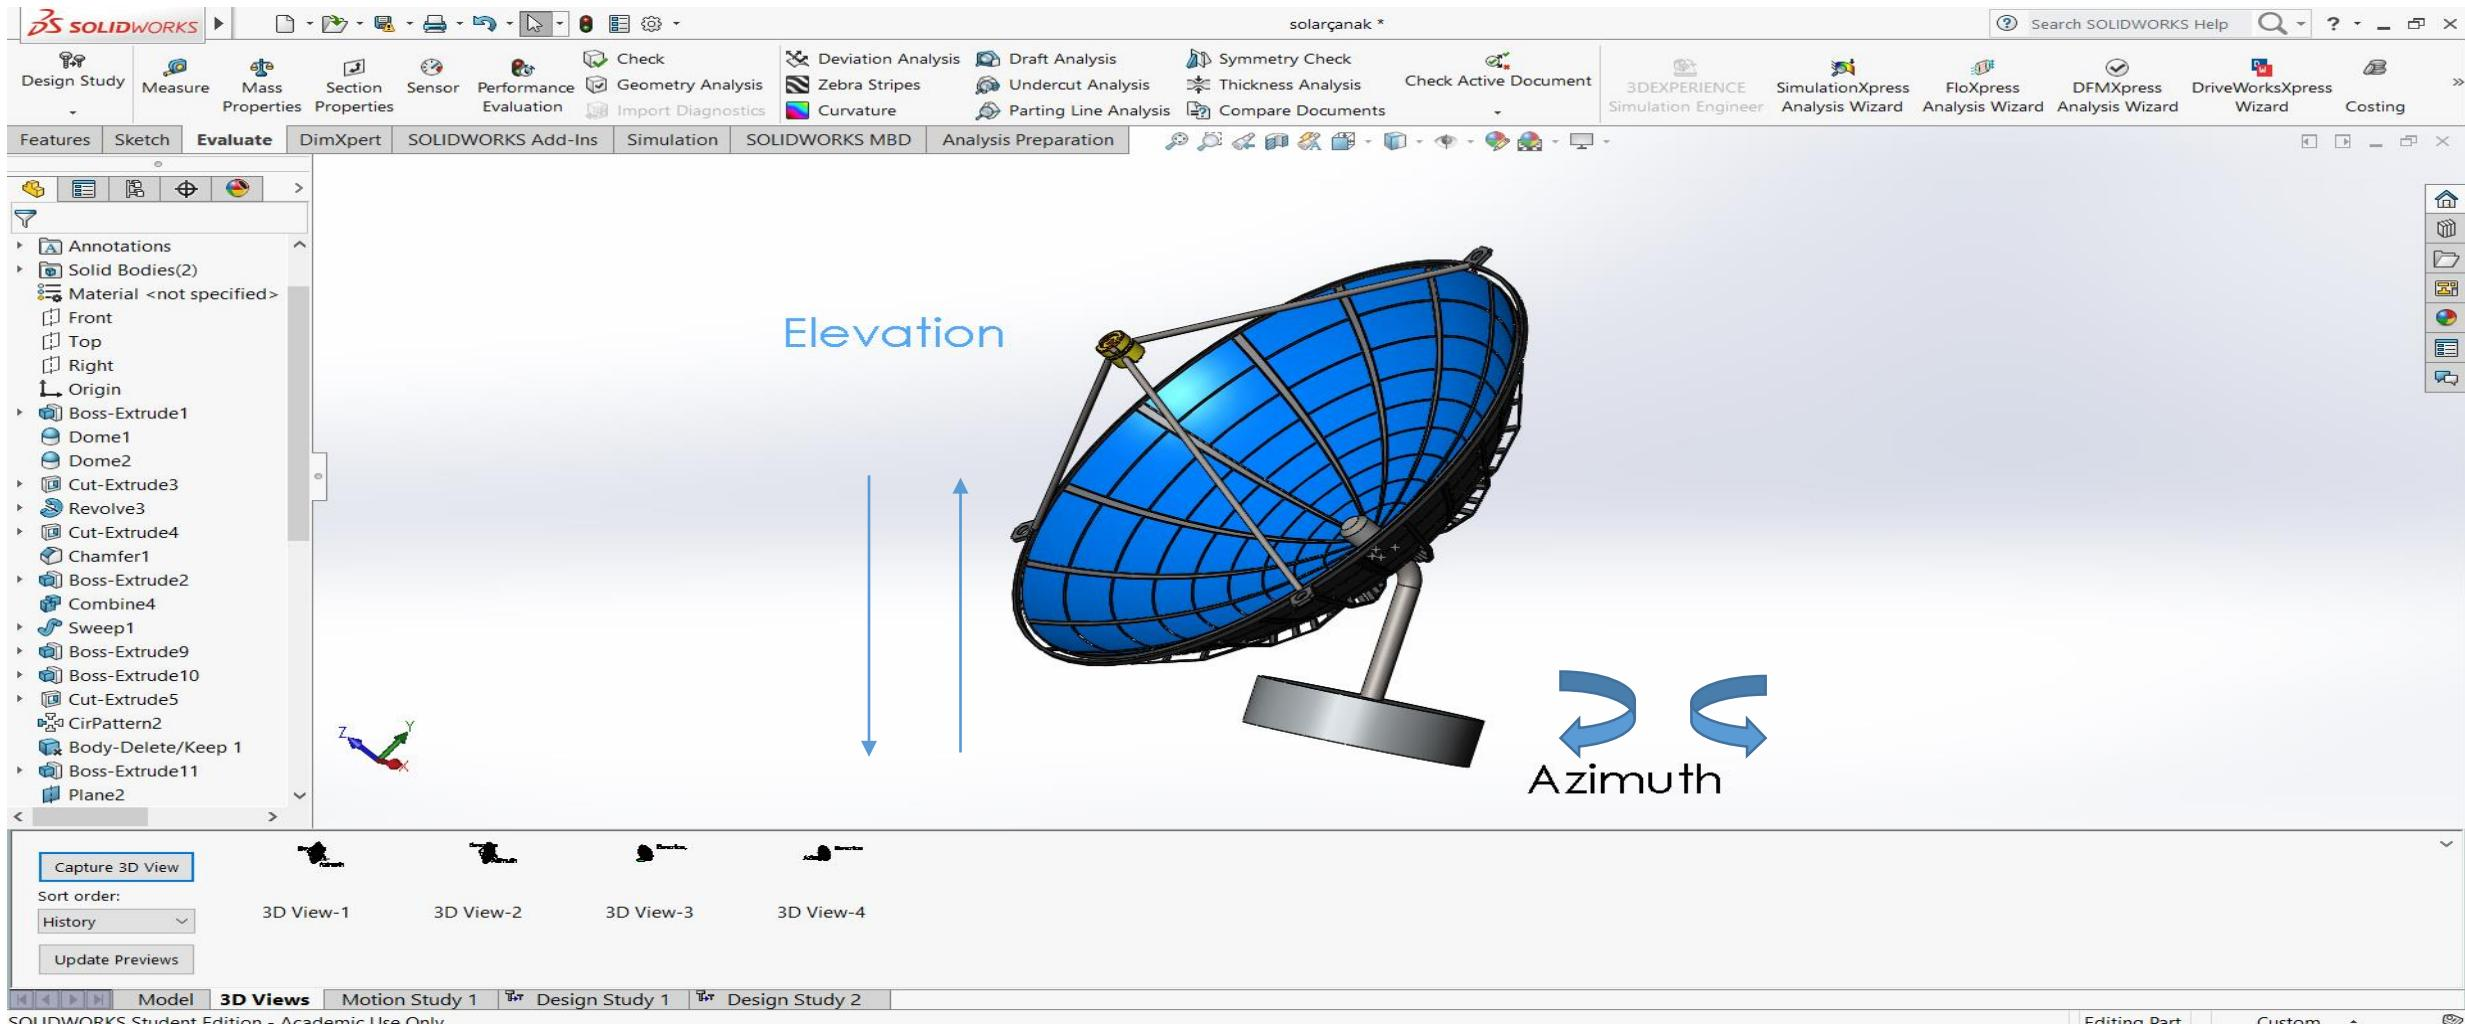

Figure 13
- 5) Solidworks source, Figure 13 ➔ <https://grabcad.com/library/solar-dish-gunes-canagi-1>